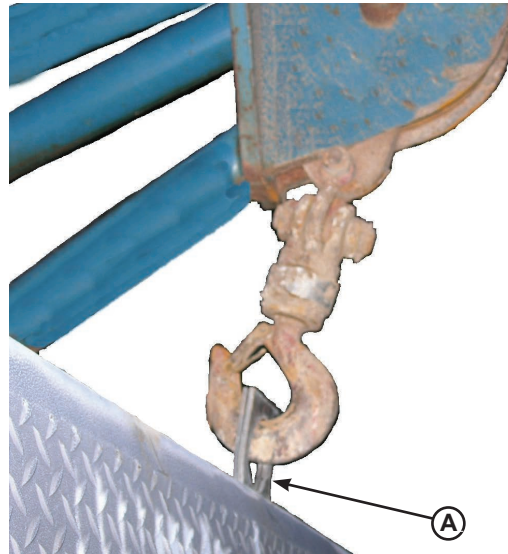

Figure 8
3. Attach lifting chains to lifting brackets (**A**) and to a lifting device (i.e., hoist or fork truck) having the appropriate lifting capacity and reach (see **Figure 8**).